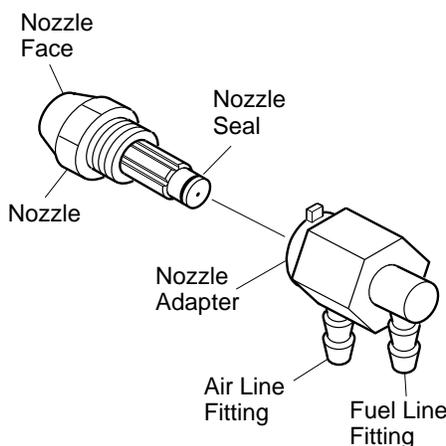

Figure 15 - Nozzle and Nozzle Adapter
6. Carefully remove nozzle from the nozzle adapter using 5/8" socket wrench (see Figure 15).
9. Replace nozzle into nozzle adapter until nozzle seats. Tighten 1/3 turn more using 5/8" socket wrench (40-45 inch-pounds). See Figure 15.